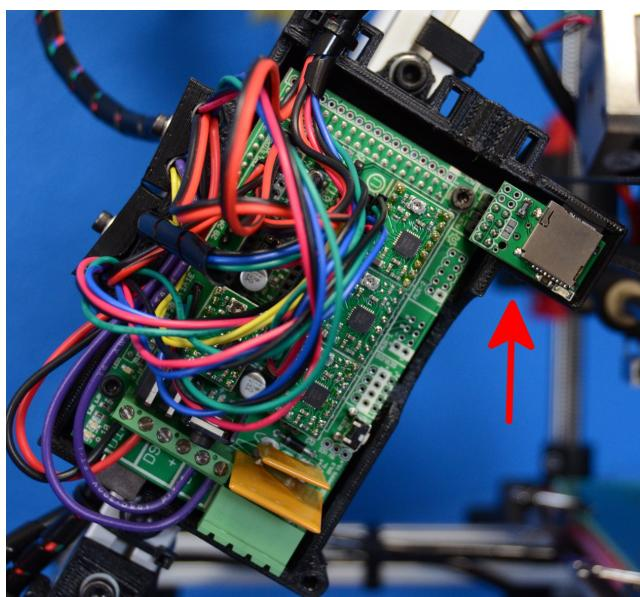

Figure 2.14: SDRAMPS
13. Insert the micro SD card into the SDRAMPS shown in Figure 2.14, page 24.